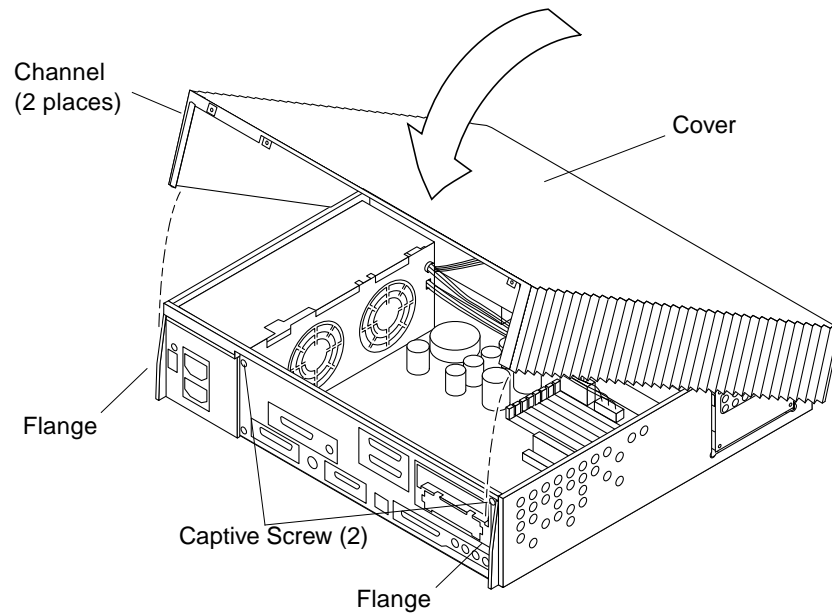

Figure 3-18 Replacing the Cover
2. Position the cover on the system as shown (Figure 3-18).
3. Lower the back side of the cover until the channels on both sides of the cover align with the two flanges at the rear of the system. Press down on both sides of the cover until it is firmly seated (Figure 3-18).
4. Tighten the captive screws on the back panel (Figure 3-18).